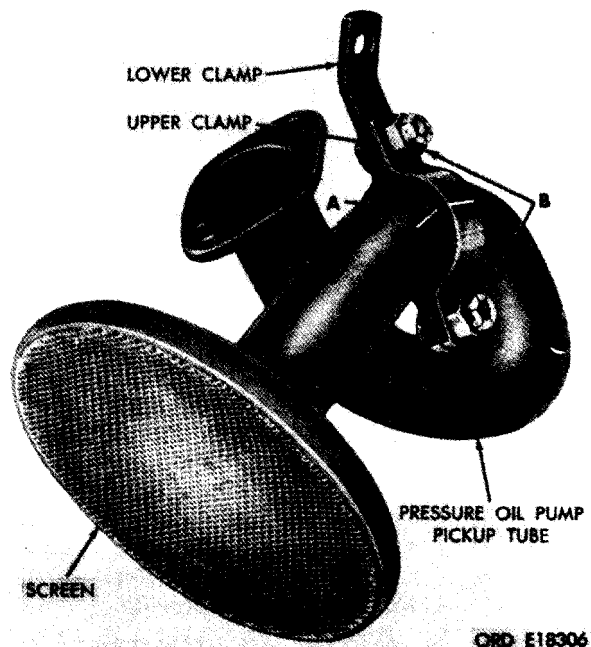

FIGURE 378. REMOVING OR INSTALLING PRESSURE OIL PUMP PICKUP TUBE CLAMP.
a. Disassembly. Figure. 378. (A) Scribe alignment marks across pickup tube upper clamp and pressure oil pump pickup tube to insure proper assembly. (B) Remove two 1/4-inch self-locking nuts and 1/4 x 5/8 cap screws securing pickup tube upper clamp and pickup tube lower clamp to pressure oil pump pickup tube.
- (1) Cleaning. Clean pressure oil pump pickup tube (GG), upper clamp (E), and lower clamp (D) as directed in paragraph 152 b. Use a wire brush to remove deposits of carbon and sludge. Blow out screen and tube with compressed air and dry thoroughly.
- (2) Inspection. Inspect pressure oil pump pickup tube (GG) for dents, cracks, loose flange, and flattened areas. Check pickup tube screen for cracks. Check mounting flange with a straight edge for warpage. Inspect pickup tube upper clamp (E) and pickup tube lower clamp (D) for cracks and deformity.
c. Repair. Minor warpage of the mounting flange of the pressure oil pump pickup tube (GG) can be corrected by working the flange across a sheet of crocus cloth held tightly on a flat surface. Replace a pickup tube that is damaged, broken, or unserviceable. Replace damaged or unserviceable pickup tube upper clamp (E) and pickup tube lower clamp (D).
d. Assembly. Refer to figure 378 and reverse the sequence of instructions to assemble the clamps to the pressure oil pump pickup tube,